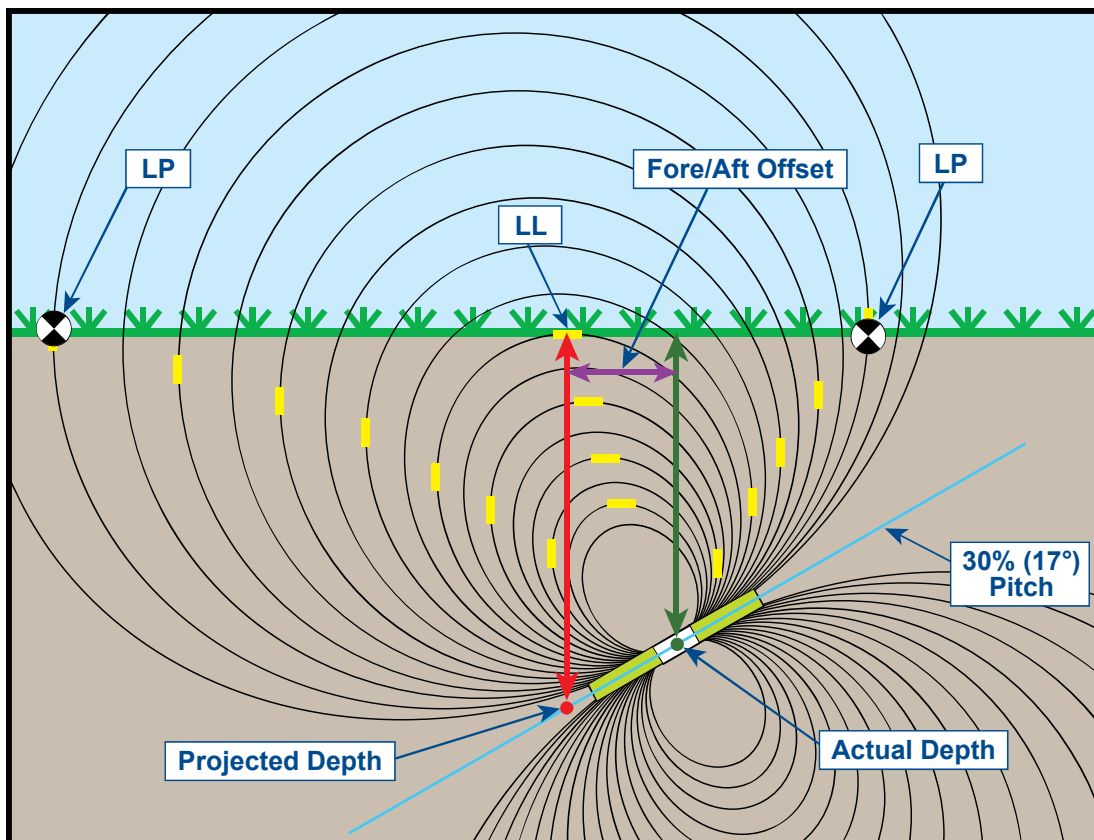

Figure B2. Projected Depth vs. Actual Depth and Fore/Aft Offset When Steep and Deep
The projected depth and fore/aft offset, shown in Figure B2, must be accounted for when the transmitter is steep and/or deep. See the tables provided later in this appendix (Tables A1 and A2) to determine the actual depth and fore/aft offset when you know the displayed (projected) depth and pitch of the transmitter.
Figure B2 above shows a transmitter positioned in a drill string that is meant to illustrate drilling at either a positive or a negative pitch—the pitch is positive if you are drilling left to right, and it is negative if you are drilling right to left. The transmitter's signal field is also pitched at the same angle as the transmitter. The locate line (LL), which is where the depth measurement is taken, is the horizontal component of the transmitter's signal field flux lines. That is, the LL is found where the flux lines are horizontal, as illustrated with short horizontal yellow lines in the figure above.
The locate points are also shown in Figure B2. These points are located at the vertical components of the signal field, as illustrated with short vertical yellow lines in the figure above. Note that the locate points are not the same distance from the LL when the tool is pitched. Again, this situation requires compensation for the projected depth and the fore/aft offset.